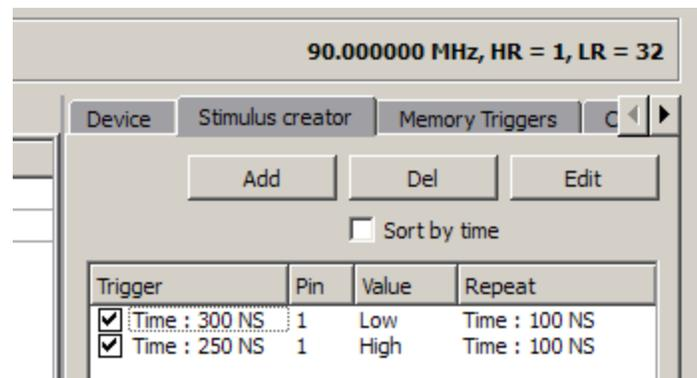

Figure 20. Completed Stimulus Creator Showing Both Triggers
16. At this point, your stimulus creator should look like Figure 20. The combination of both pin triggers with repetitive periods, is to drive pin 1 high at 250 ns, low at 300 ns, and then continually repeat. This creates a toggling input stimulus on pin 1 with a period of 100 ns.